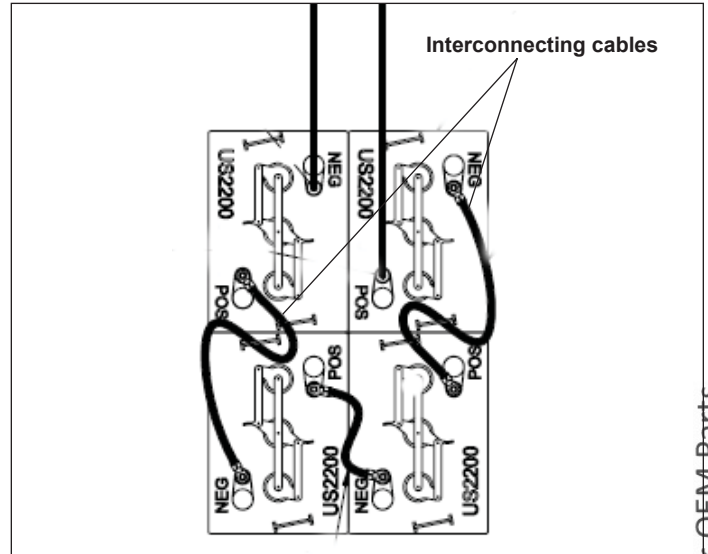

Figure 9-9. Battery Cables
1. Remove nuts, washers and cables, positive lead and negative lead interconnecting batteries. See Figure 9-9.